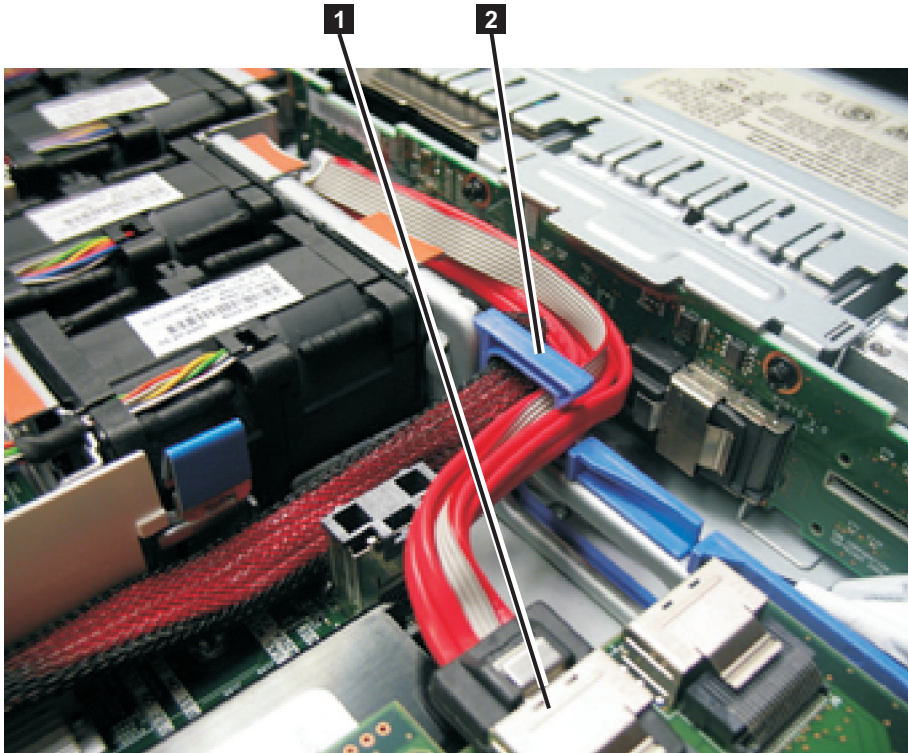

Figure 197. Boot-disk SAS cable routed through the blue bulkhead clip and connected to the SAS disk controller in the SAN Volume Controller 2145-CG8 or 2145-CF8
10. Remove the cable from the blue bulkhead clip behind the disk backplane, as shown in Figure 197 on page 213.